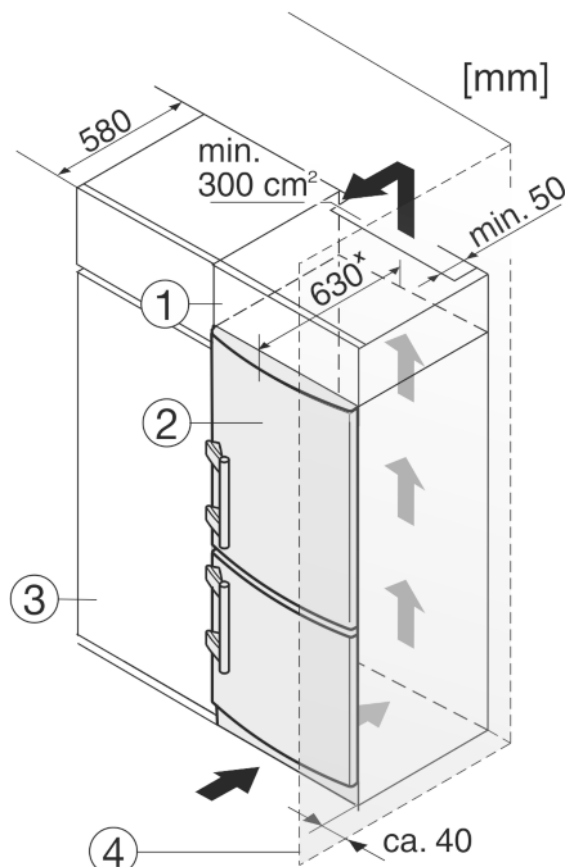

Fig. 9
- (1) Stack cabinet
- (2) Appliance
- (3) Kitchen cabinet
- (4) Wall
The appliance can be inserted into a row of kitchen units. To match the appliance *Fig. 9 (2)* to the height of the row of units, a suitable stack cabinet *Fig. 9 (1)* can be fitted above the appliance.
When installing with kitchen units (max. depth 580 mm), the appliance can be positioned directly next to the kitchen cabinet *Fig. 9 (3)*. The appliance will project by 34 mm* at the sides and 50 mm* in the centre of the appliance in relation to the kitchen cabinet front.
If the appliance is installed with the hinges next to a wall *Fig. 9 (4)*, the distance between appliance and wall has to be at least 40 mm. This corresponds to the projection of the handle when the door is open.